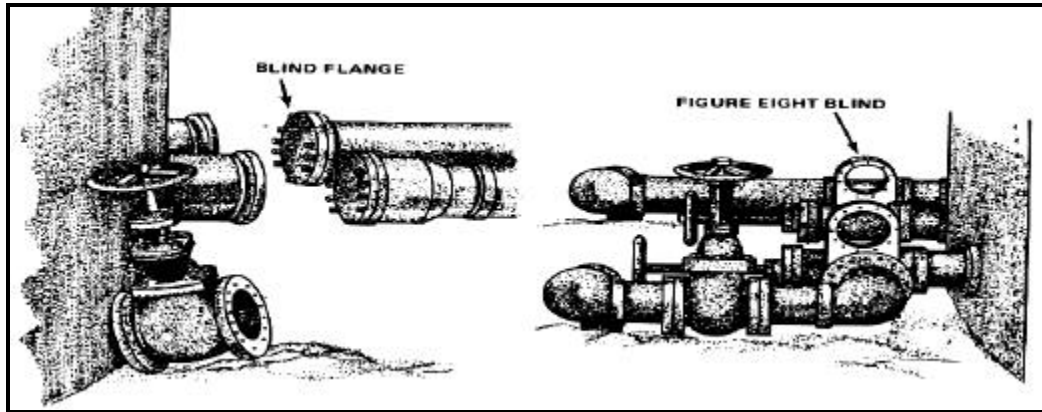

Figure 12-17. Blanking off a tank with blind flanges or figure eight blinds
- Break all lines and remove the valves nearest to the tank. Replace the valves with either blind flanges or figure eight blinds as shown in Figure 12-17, page 12-22. Make sure the solid half of the figure eight blind is down in the line. If figure eight blind holders have already been permanently installed near the tank, it is not necessary to remove the valves. Reverse the blinds so that the solid half closes off the line. All blank ends and blinds should be strong enough to withstand any pressure that might be exerted in the line. Respirators should be worn when blanking lines to tanks which were used to store leaded fuels and crude oils.